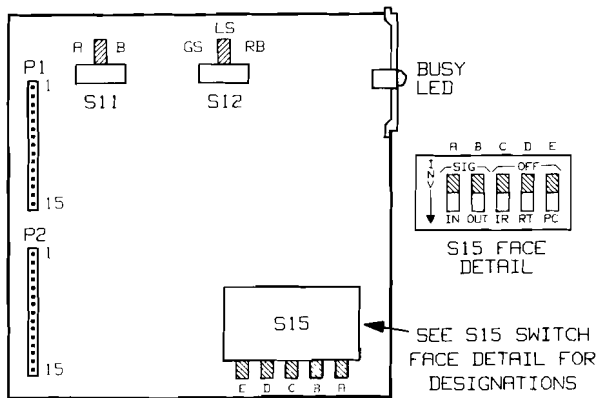

figure 2. 6008A option switch locations
3.03 The 6008A subassembly itself requires no alignment. Before the 6008A is placed into service, however, three option switches on the subassembly itself must be set. One is a two-position slide switch, another is a three-position slide switch, and the third is a five-position DIP switch. Figure 2 shows the locations of these switches on the subassembly's printed circuit board. In addition to the 6008A's switches, several option switches on the host 6131 module must be set as well. Instructions for setting the 6131's option switches are provided in the Tellabs 6131 practice, while instructions for setting the 6008A's option switches are provided below.